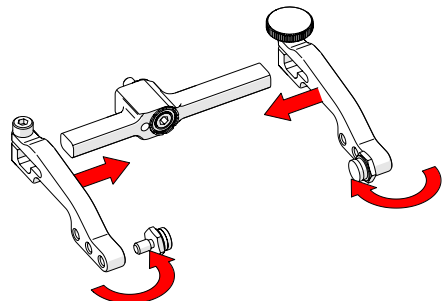

Fig. 124 - Attach arms & move buttons
5. Place the pivot buttons on the inside of the probe holder arms (Fig. 124) using a 3/8 in wrench (Fig. 41).